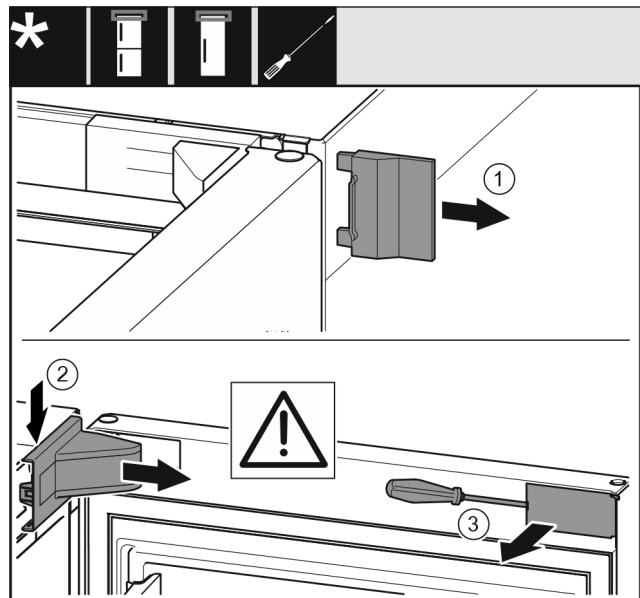

Fig. 10
- Remove the outer cover Fig. 10 (1).
- ▶ Disengage and remove the swap bearing block cover *Fig. 10 (2)*.
- ▶ Use a slotted screwdriver to unlatch the trim *Fig. 10 (3)* and swing it to the side.